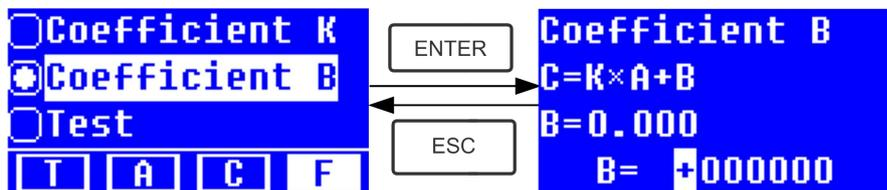

Fig.4-19
- ★ Input the value of B in the same way(Fig. 4-19)